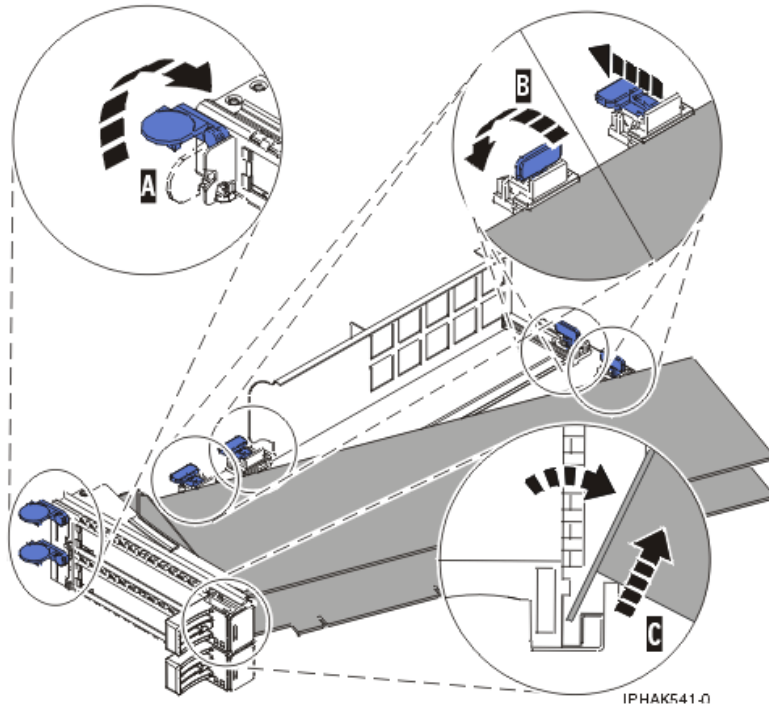

Figure 45. Adapter removed from the PCI adapter cassette
- a. Unlock the adapter retainers by rotating the retainer clip A into the horizontal position. See Figure 45 on page 65.